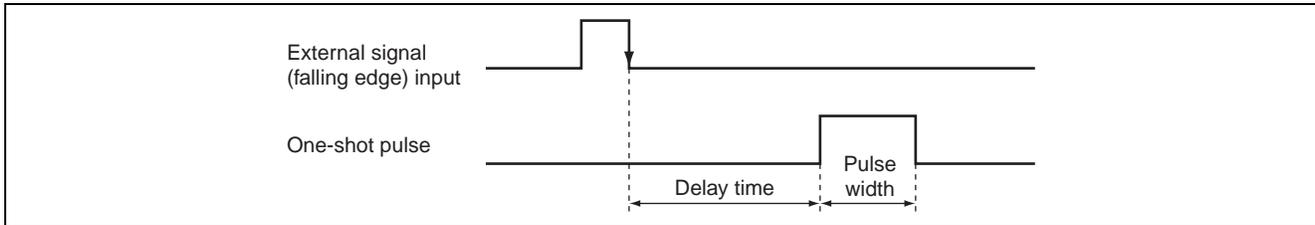

Figure 1 One-Shot Pulse Output
1. As shown in figure 1, this function outputs a one-shot pulse, synchronizing with the falling edge of the external signal.